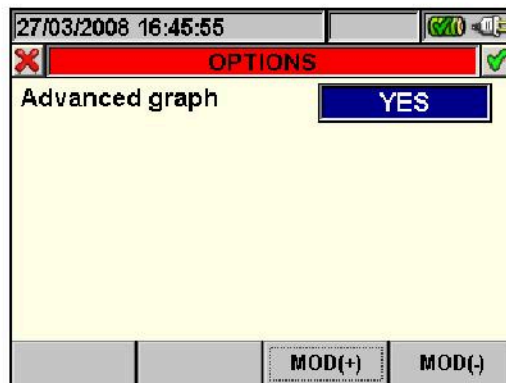

Fig. 121: Options (Advanced graph)
- **F4** key (or **OPTIONS** item on the display) to access the page for the activation of the "Advanced graph" (Fig. 121).
2. Press the **F4** key (or the **OPTIONS** item on the display) to access the page for the activation of the Advanced graph (Fig. 121).